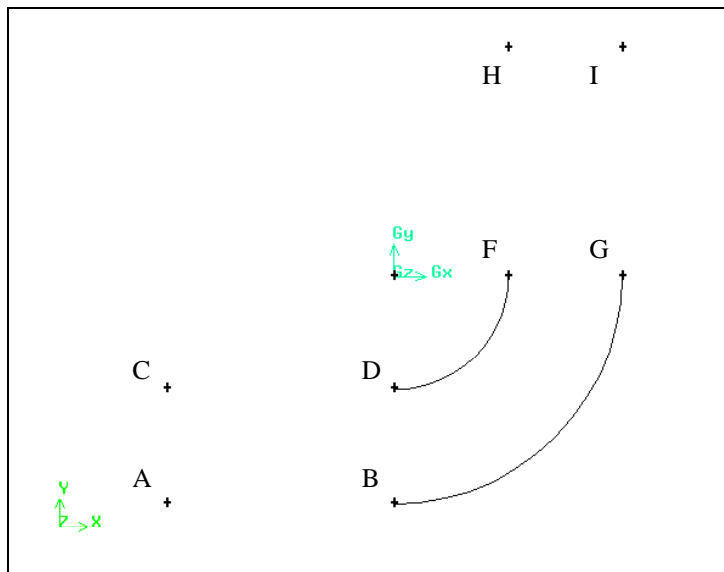

Figure 2-7: Vertices used to create straight edges
- a) *Shift*-left-click the left endpoint of the smaller arc (vertex D in Figure 2-7).
- b) *Shift*-left-click the vertices marked C, A, and B in Figure 2-7, in order.
- d) *Shift-left-click* the vertices marked F, H, I, and G in Figure 2-7, in order.